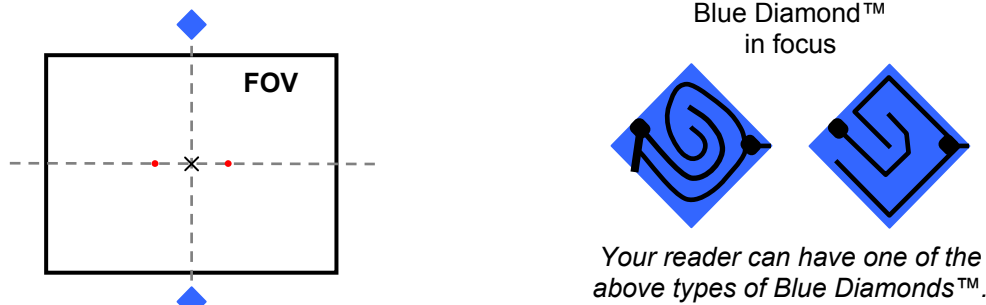

Figure 5 – Focus Function Using Blue Diamonds™
- a. At the correct reading distance (see the Reading Diagrams in Chapter 7 of this Reference Manual), adjust the Focus ring towards the "Near position" until the Blue Diamonds™ are perfectly in focus, see Figure 5.